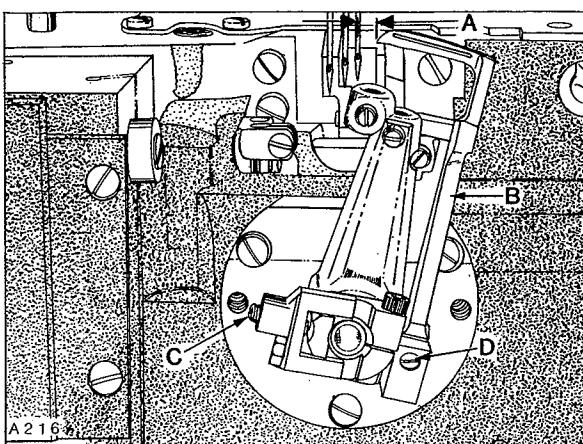
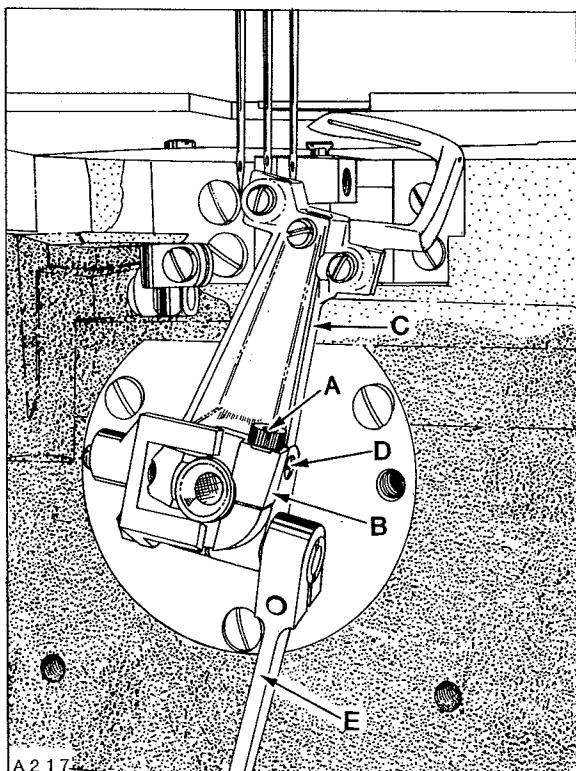

Fig. 10
Fig. 11
If not previously done, insert a new set of needles; type and size specified. With looper holder at EXTREME right end of travel, distance from centerline of RIGHT needle to point of RIGHT looper should be dimension (A, Fig. 10); see chart. Adjustment can be made by pulling release lever (B) down and loosening screw (A, Fig. 11) in stop collar (B). Apply pressure against the upper portion of looper holder (C) to the LEFT while turning screw (D) in looper holder clockwise to increase looper gauge or counterclockwise to decrease. Applicable looper gauge can be used advantageously in making this adjustment.
Continue to apply pressure against upper portion of looper to the LEFT while turning stop collar (B) to its EXTREME CLOCKWISE position and tighten screw (A) securely. Push up release lever (E) to lock looper holder in position. Adjust screw (C, Fig. 10) which incorporates a spring plunger, against the recess in cam of stop collar as required to attain the following conditions:
In locked position, the release lever should be approximately in line with middle looper as viewed from the right side of looper holder. Adjustment can be made by loosening screw (D, Fig. 10), reposition release lever as required and retighten screw.
Loopers must also be set so, as they travel to the left behind the needles, NOT to touch, but with a MAXIMUM clearance of .002 inch (.051mm). Adjustment can be made by pulling release lever down, loosening screw (A, Fig. 11) in stop collar (B) allowing looper holder to be moved forward or rearward on its shaft, as required. Apply pressure against upper portion of looper holder to the LEFT while turning stop collar (B) to its EXTREME CLOCKWISE position and tighten screw (A) securely and push release lever up in locking position. RECHECK looper gauge.
| MACHINE STYLE | DIMENSION A FIG. 10 | LOOPER GAUGE NO. |